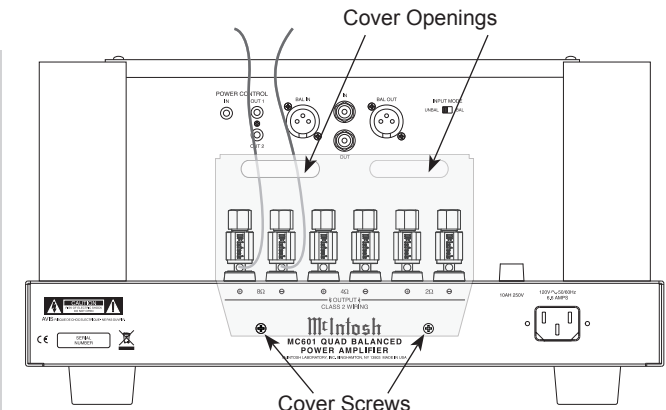

Figure 6 (Outside USA and Canada)
11. Locate the Terminal Connections Cover from the inside of the MC601 shipping carton. Insert the just prepared Loudspeaker hookup cables thru the cover openings. Refer to figure 6.
*Note: The illustration in figure 6 is connections for 8Ω (ohms) Loudspeakers.*
13. Attach the Terminal Connections Cover to the MC601 Rear Panel with the previously removed Screws. Refer to figure 6.